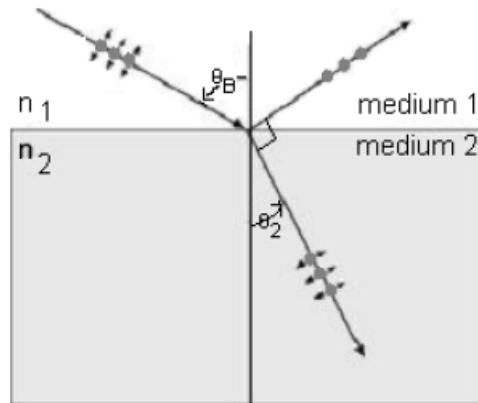

Figure 3
When an unpolarized light beam is reflected from a surface, the reflected beam will become partially polarized depending on the angle of incidence. For one particular angle of incidence, called *Brewster’s angle*, θ_B , the reflected beam is completely polarized. The condition for this phenomenon to occur is shown in Fig. 3. The polarization of the incident beam can be described by two electric field components, one parallel to the surface (represented by dots) and the other perpendicular to the first component and to the direction of propagation (represented by arrows). At Brewster’s angle of incidence, the angle between the reflected and refracted beams is 90° . The reflected beam is completely polarized, with its electric field parallel to the surface. Brewster’s angle can be related to the index of refraction of the reflecting surface by using Snell’s law. Substitution of $\theta_1 = \theta_B$, $n_1 = n_{\text{air}} = 1$, and $n_2 = n$, into Eq. (1), we get $\sin \theta_B = n \sin \theta_2$. Because $\sin \theta_2 = \sin(90^\circ - \theta_B)$, the expression for n above can be written as the following equation.